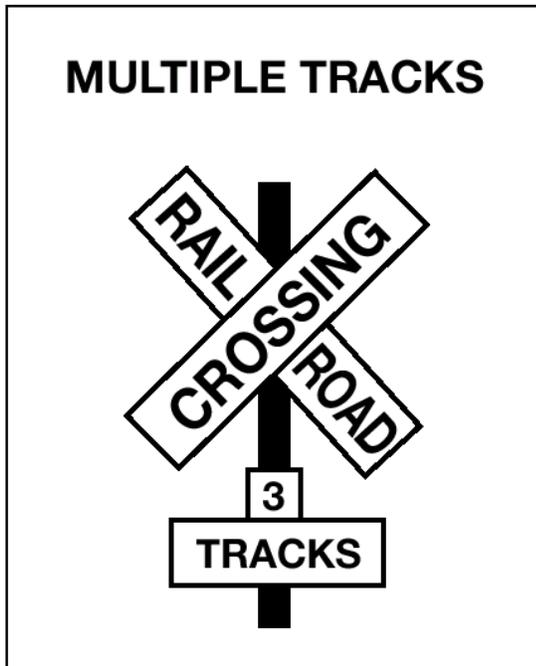

Figure SB.7
**Crossbuck Signs.** This sign marks the crossing. It requires you to yield the right-of-way to the train. If there is no white line painted on the pavement, you must stop the bus before the crossbuck sign. When the road crosses over more than one set of tracks, a sign below the crossbuck indicates the number of tracks. **See Figure SB.7.**